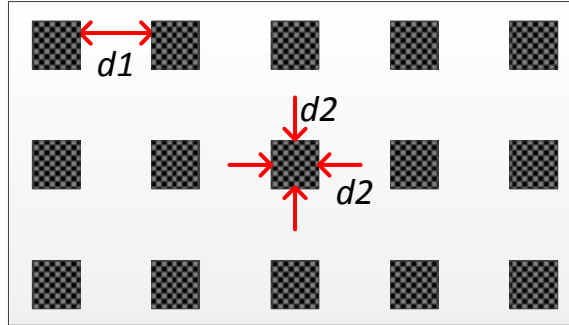

Figure PS2.1-3
- Your colleague has proposed that if you use the layout in Figure PS2.1-3 for the etch mask, the oxidation time decreases. How do your answers to the previous parts change for this layout?